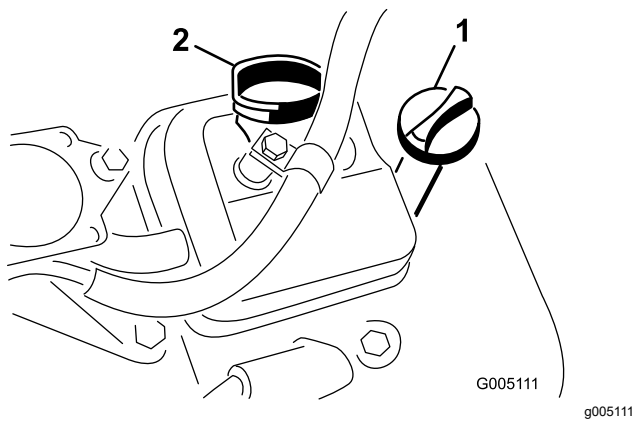

Figure 30
3. Insert the dipstick into the dipstick tube and thread it into the tube (Figure 30).